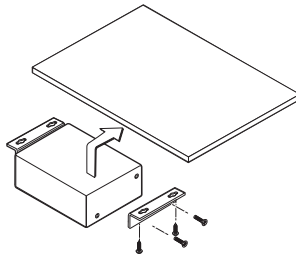

Figure 2-3 — Mounting the PVT under a desk
2. Attach the mounting brackets to the PVT with the machine screws provided (figure 2-3).